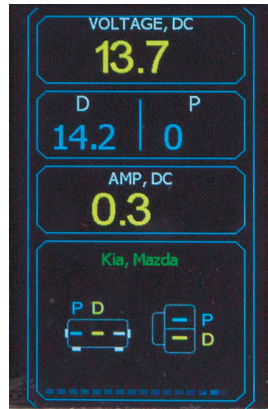

Fig.14. MS004COM
- **D:** indicator of set stabilizing voltage of a voltage regulator (voltage regulators with P-D terminal only) **(Fig. 14)**.
- **P:** stator winding frequency indicator of a voltage regulator (voltage regulators with P-D terminal only) **(Fig. 14)**.